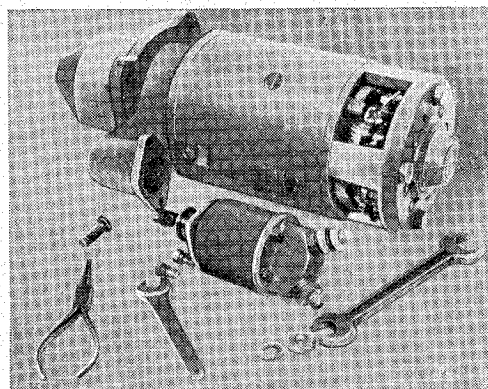

Fig. 86.
6. Screw out the nut securing the connecting strap of the starter motor to the solenoid switch (see Fig. 86).